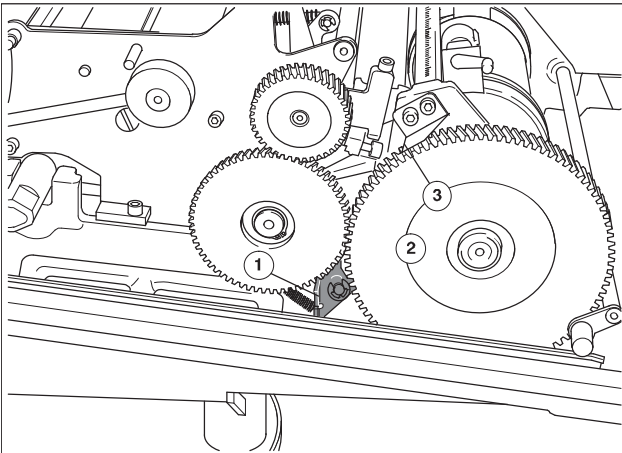

Fig. 41 Positioning the numbering boxes
1. Release the drive gear (Fig. 41/2) by lifting the ratchet pawl (Fig. 41/1).
2. Turn the drive gear (Fig. 41/2) until the edge of the measuring index (Fig. 41/3) points to the value 7 (7 corresponds to 70 mm in front of the front edge of the sheet).